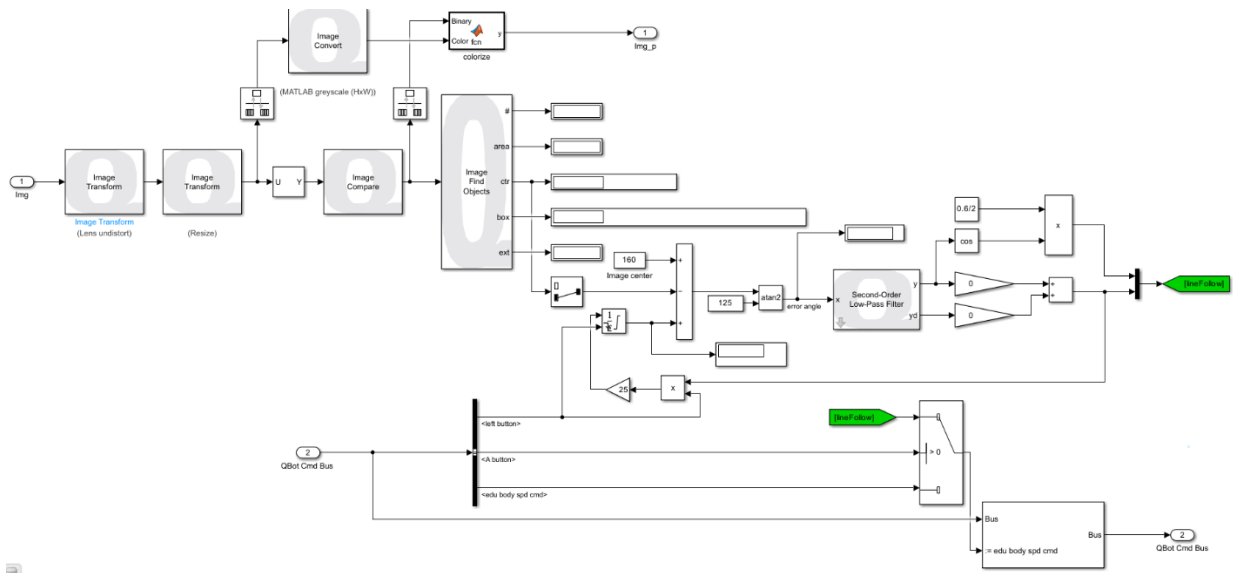

Figure 3. Image Processing Block
1. In this lab you will be focusing on processing the information from the downward facing camera to allow the QBot to drive by itself. This will be done in the **Image Processing** subsystem. At the end of the lab, it should look like Figure 3.
7. Use your new Omega to compensate for curves when finding the center. The Space Bar should reset values when needed. Use the completed subsystem from Figure 3 as a reference. What does this code do? Take notes.